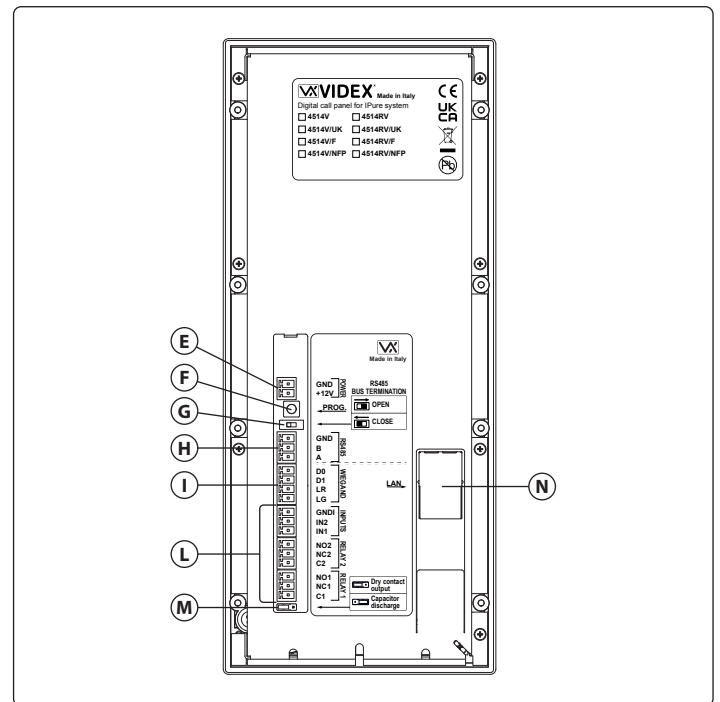

Fig. 2 Back
- Press and keep pressed the **(F)** button (**Fig. 2 on page 1**) then connect again the power supply source.